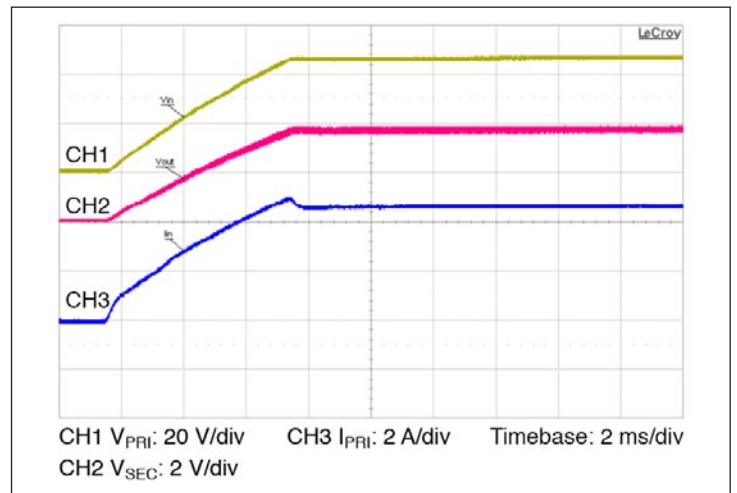

Figure 10 — Start up from application of V_{PRI}; VC pre-applied C_{SEC} = 9100 μF
- Normal operation (VC applied prior to the source voltage): In this case, the controller is active prior to the source ramping. When the source voltage is applied, the VTM module load voltage will track the source (See Figure 10). The inrush current is determined by the source voltage rate of rise and load capacitance. If the VC voltage is removed prior to the primary voltage reaching 26 V, the VTM may shut down.